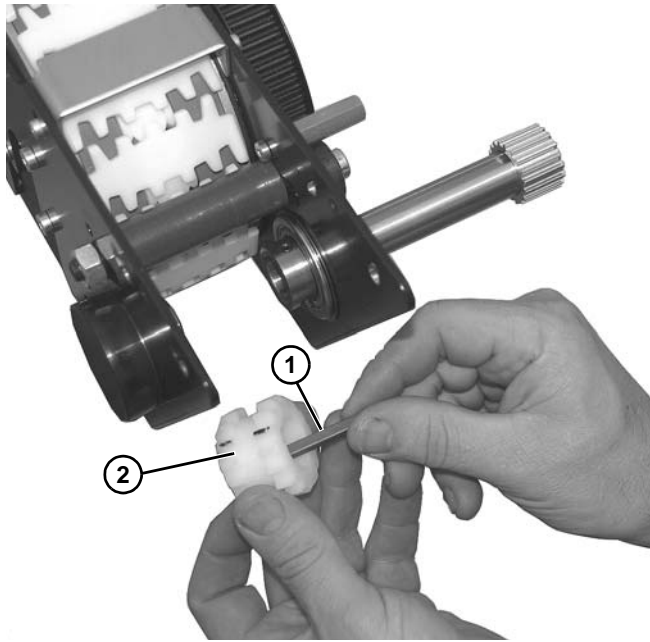

**Figure 114**
15. Remove drive shaft (Figure 114, item 1), making certain not to lose key (Figure 114, item 2) when removing gear (Figure 114, item 3).